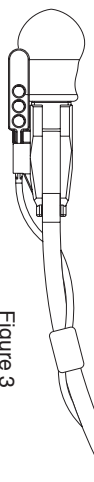

Figure 3
4. Secure the wire to the boom with Velcro One Wrap® strips—see *Figure 3*.